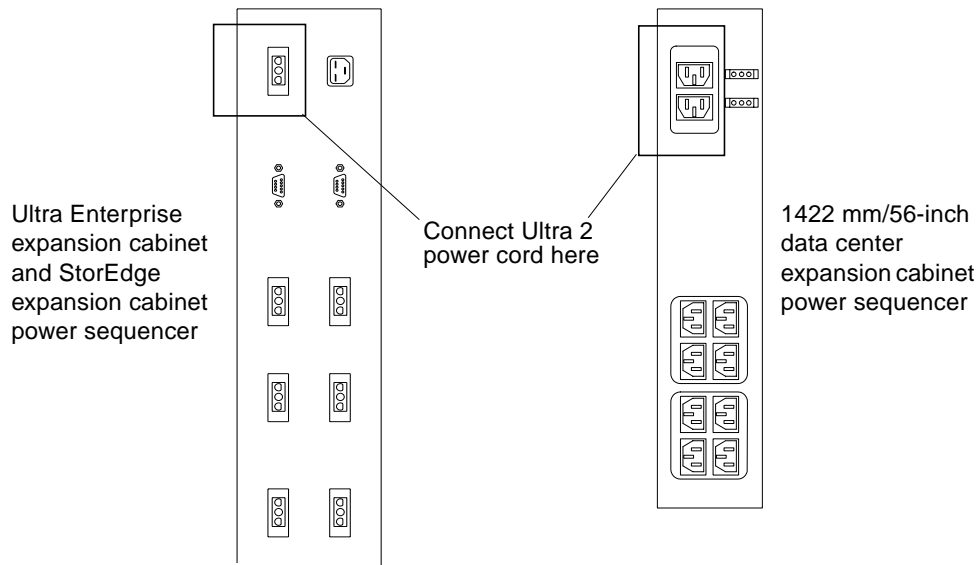

FIGURE 1-5 AC Power Sequencers—Ultra 2 Power Connector
You need to order one of the following power cords depending on the type of power sequencer in the expansion cabinet (FIGURE 1-5):
- 3. Connect the power cord from the Ultra 2 host into the top power connector of either power sequencer (FIGURE 1-5).**